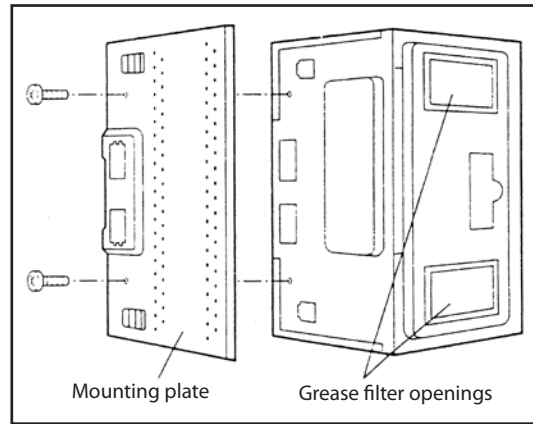

Figure 7
1. Rest the microwave oven on its side as shown in Figure 7. Place portion (C) of the carton underneath to protect the outercase from being damaged.